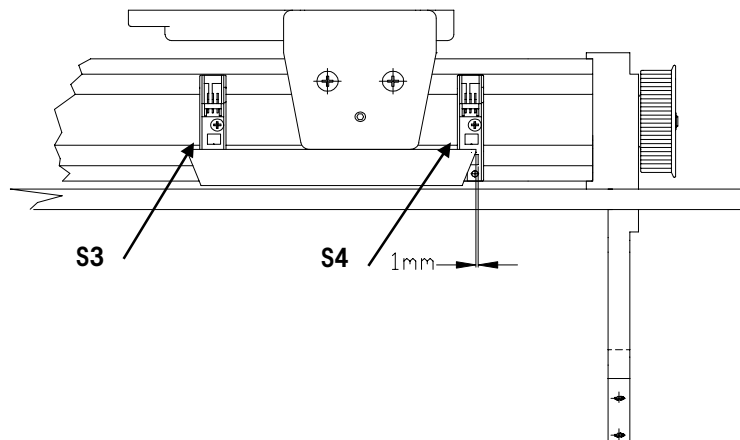

Figure 7-27
3. At this point, the sensor flag should be 1 mm from being flush with the end of the sensor (S4) as shown in Figure 7-27.